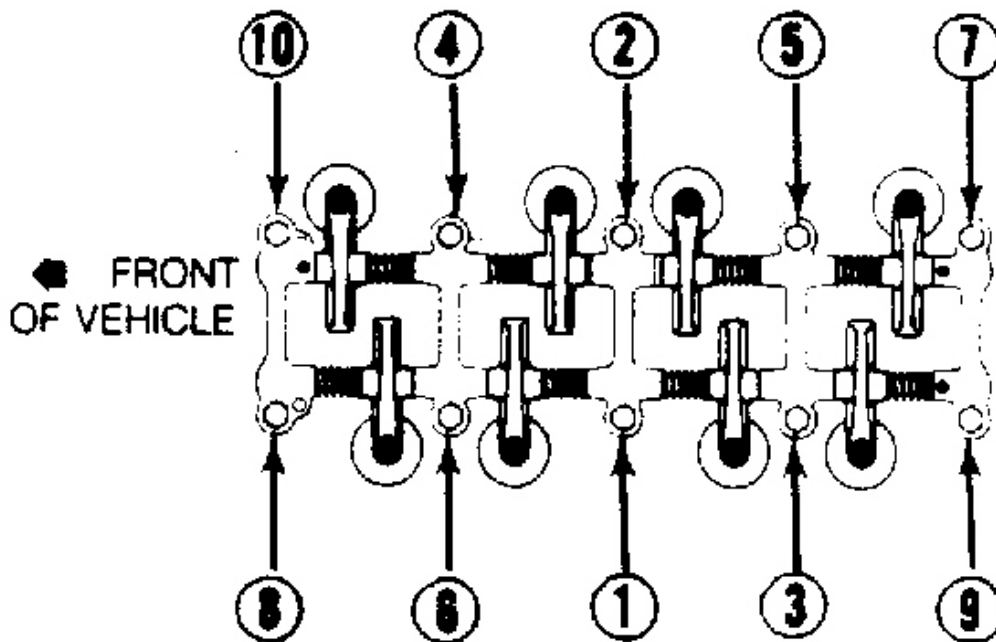

Fig. 1: Cylinder Head/Rocker Arm Bolt Tightening Sequence
6. Loosen cylinder head bolts, in 3 steps, in reverse order of tightening sequence. See **Fig. 1**. Remove rocker arm assembly. If necessary, pry equally at front and rear of rocker arm assembly to remove.
2. Install rocker arm assembly over locating dowels and tighten head bolts in 3 steps. See **Fig. 1**. Continue installation in reverse of removal sequence. Ensure valve and ignition timing is properly set. Adjust valves.